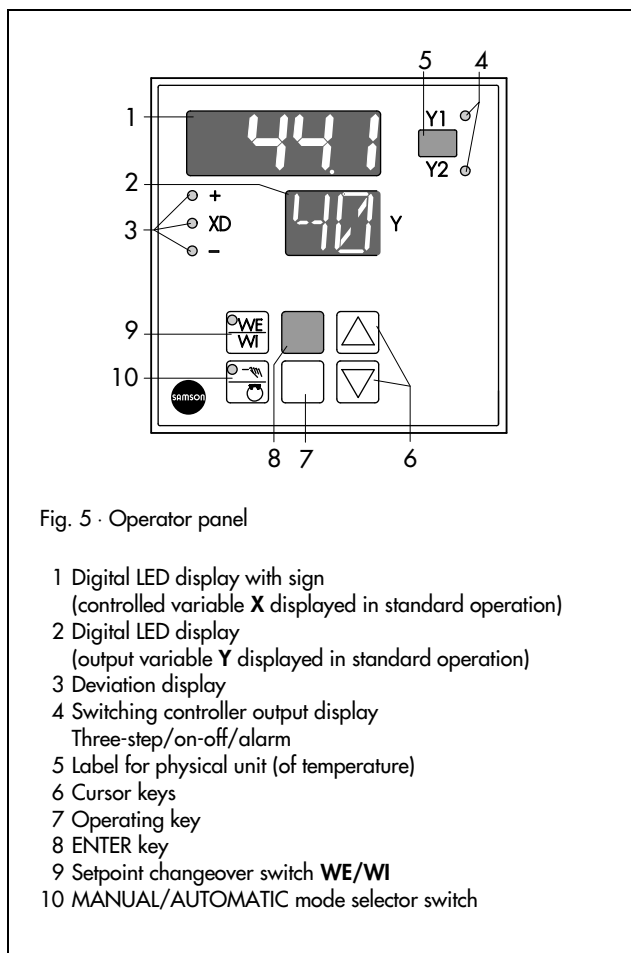

Fig. 5 · Operator panel
An external setpoint*, **WE**, can be connected either by actuating the **WE/WI** changeover key (9 in Fig. 5), or by supplying an external signal at terminals 12 and 5 (connection diagram).